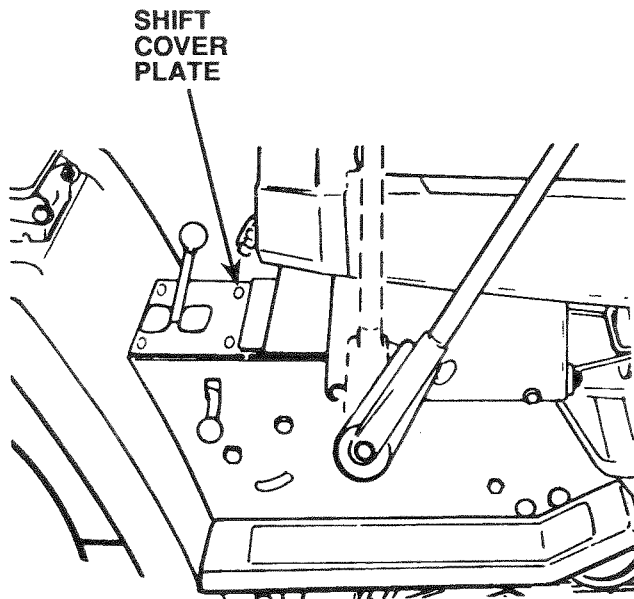

FIGURE 29
- Remove (4) Hex Washer Head Tapping Screws from Shift Cover Plate (Fig. 29) located on top of Tractor Frame. Remove the Cover Plate.